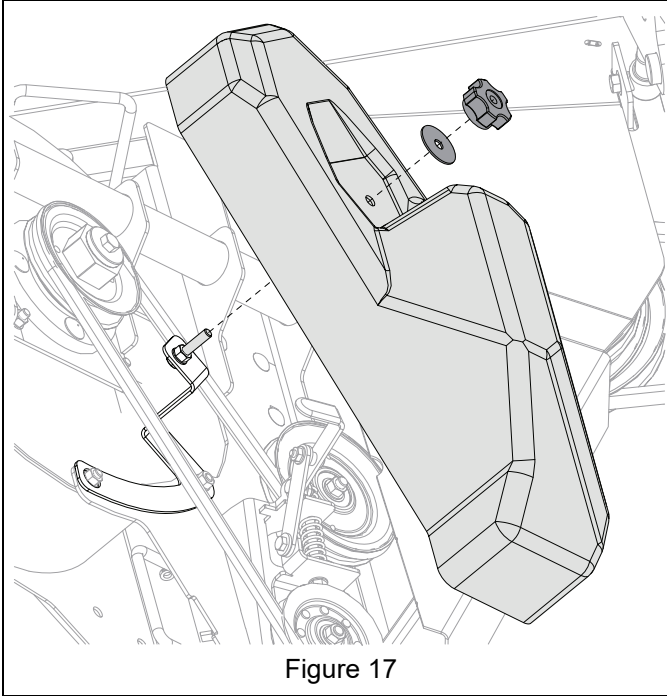

Figure 17
22. Install blower cover onto bracket and secure with one 1 1/2" washer and one knob from bagger kit. See Figure 17.